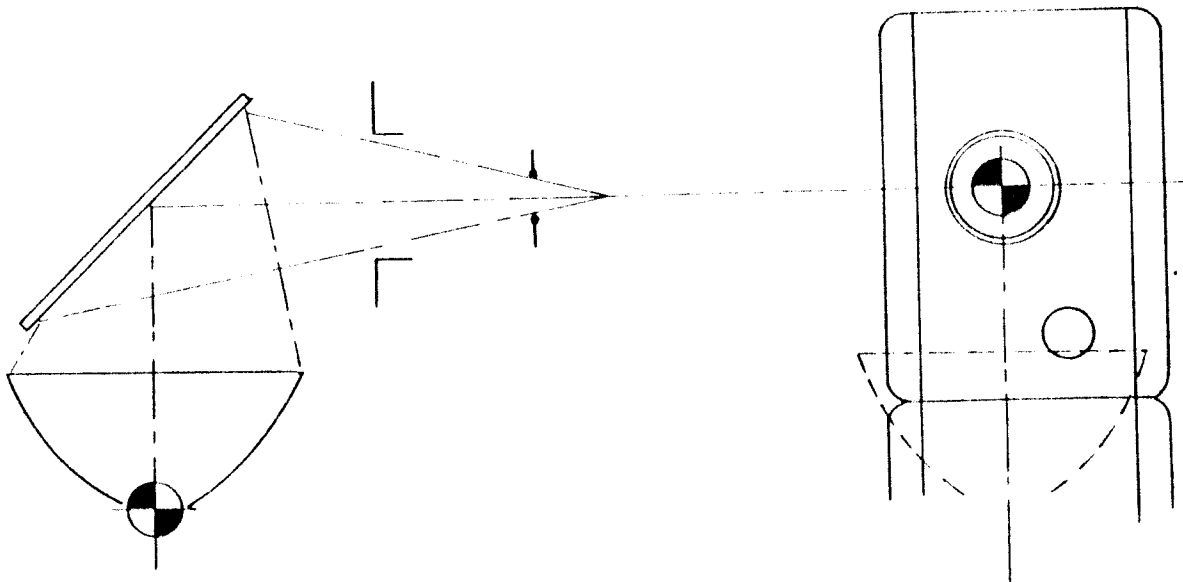

Figure 3-1 Projector Alignment
- a. Check console; it should be roughly aligned with the projector (see Figure 3-1).